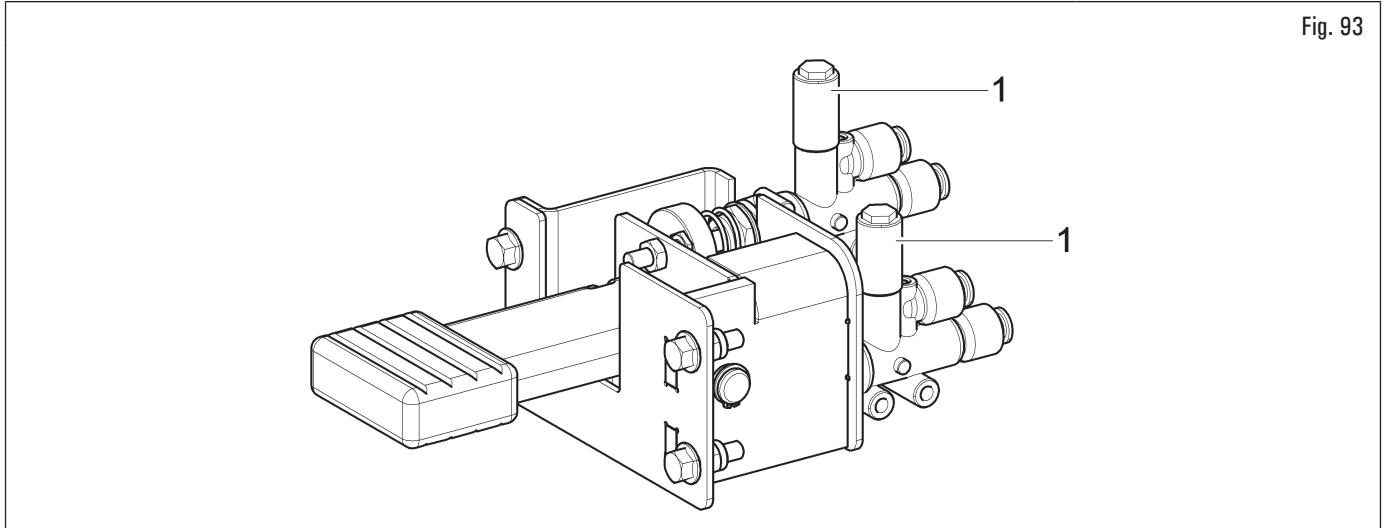

Fig. 93
2. undo the silencers (Fig. 93 ref. 1) located on the inflation pedal servo distributors;